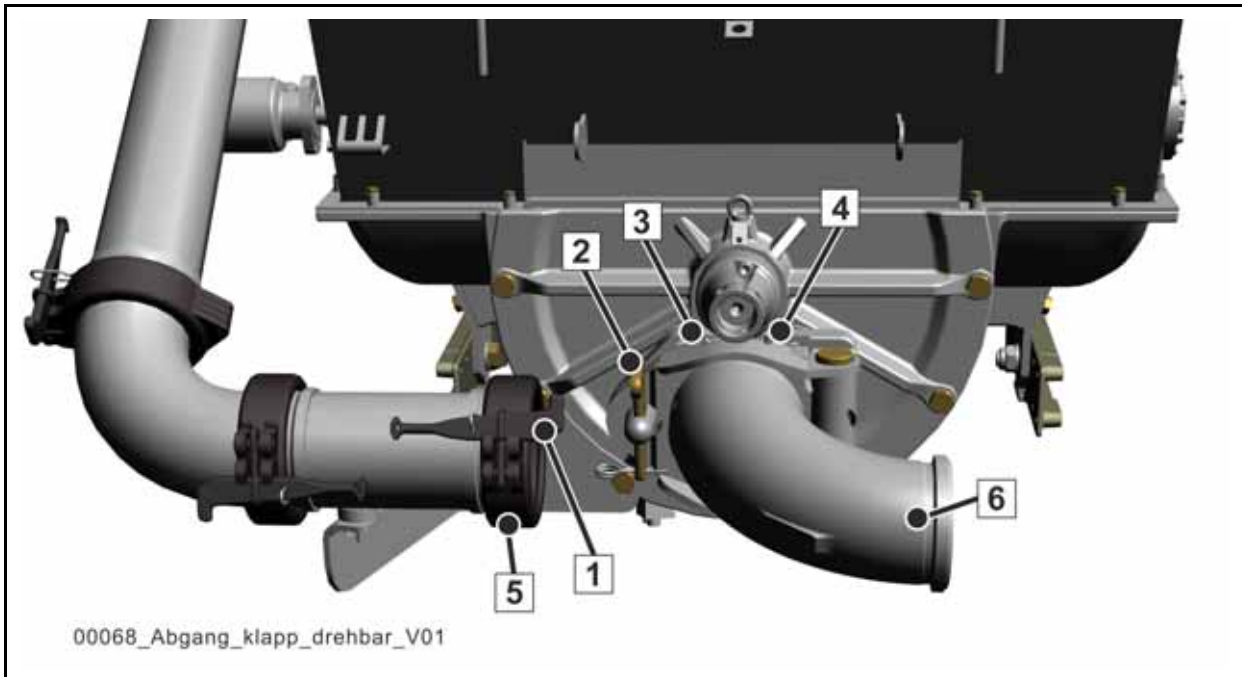

Fig. 150 Outlet, foldable and rotatable
In order to connect a separate pumping line more easily, certain SCHWING truck-mounted concrete pumps can be optionally equipped with a foldable and rotatable outlet (6; **(Fig. 150)**).
- Pull the clip pin and remove the wedge (1) and coupling (5) first
- Pull the clip pin and remove the wedge (2)
- Loosen both the safety screw (4) and the second safety screw offset by 180° by approx. half a rotation
- Rotate the foldable and rotatable outlet into the required position (e.g. 6; **(Fig. 150)**) and fold it back
- Reinsert the wedge (2), but do not hammer it in place yet
- If necessary, correct the position of the foldable and rotatable outlet and then hammer the wedge (2) down. Secure the wedge using the clip pin.
- Reattach the upper and lower safety screws (4) Connect a separate pumping line.
Once a week, squeeze some lubricating grease into the grease nipple (3) (**Fig. 150**) and into the second nipple offset by 180°.